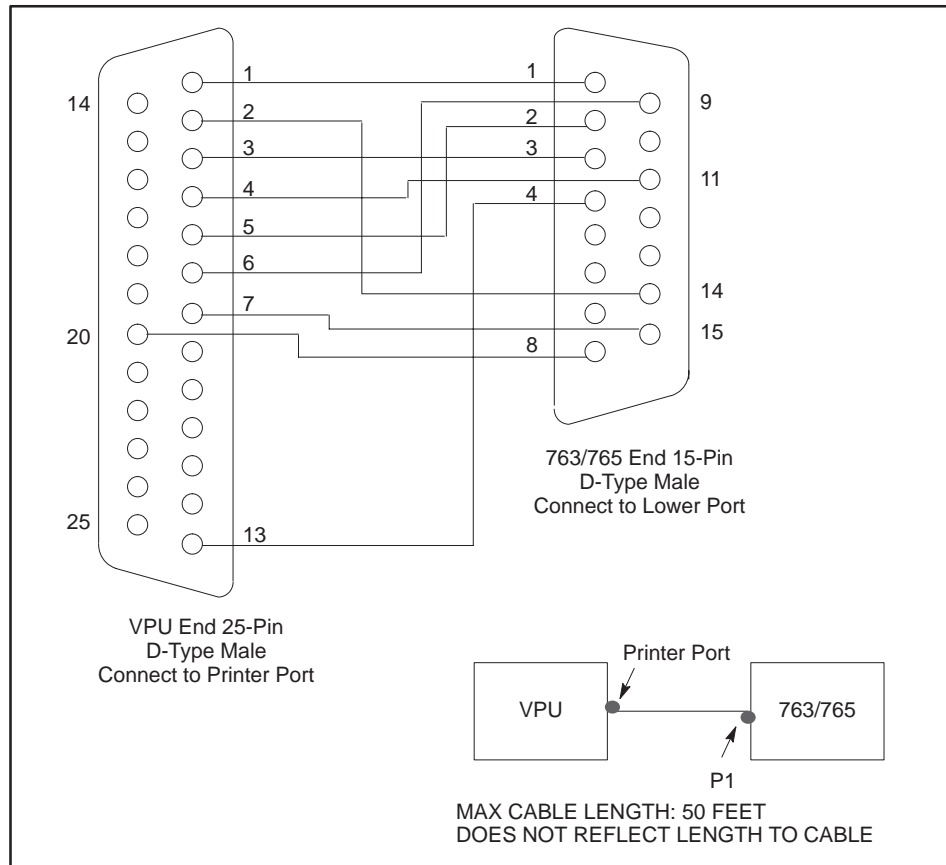

Figure 4-10 VPU200 to 763/765 Cable
**763/765 Terminals.** The VPU200 is connected to a 763 or 764 bubble memory terminal using the cable shown in Figure 4-10. The terminal and the VPU200 must be set at the same baud rate. At baud rates above 300, the Record function on the terminal must be activated.